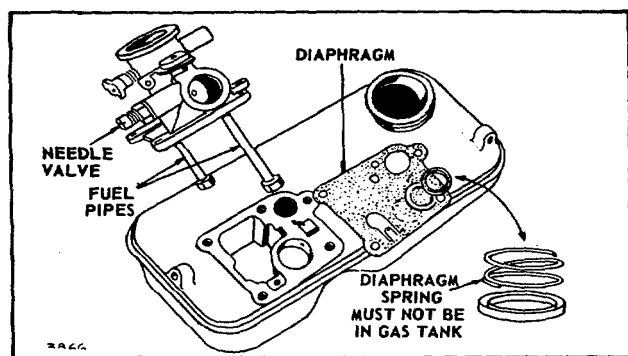

Fig. 35-- Exploded View- Carburetor and Tank Assembly
To assemble Pulsa-Jet carburetor to tank, first place diaphragm on tank. Then place spring cap and spring on diaphragm. Install carburetor and tighten four (4) screws evenly in staggered sequence to avoid distortion, Fig. 35.